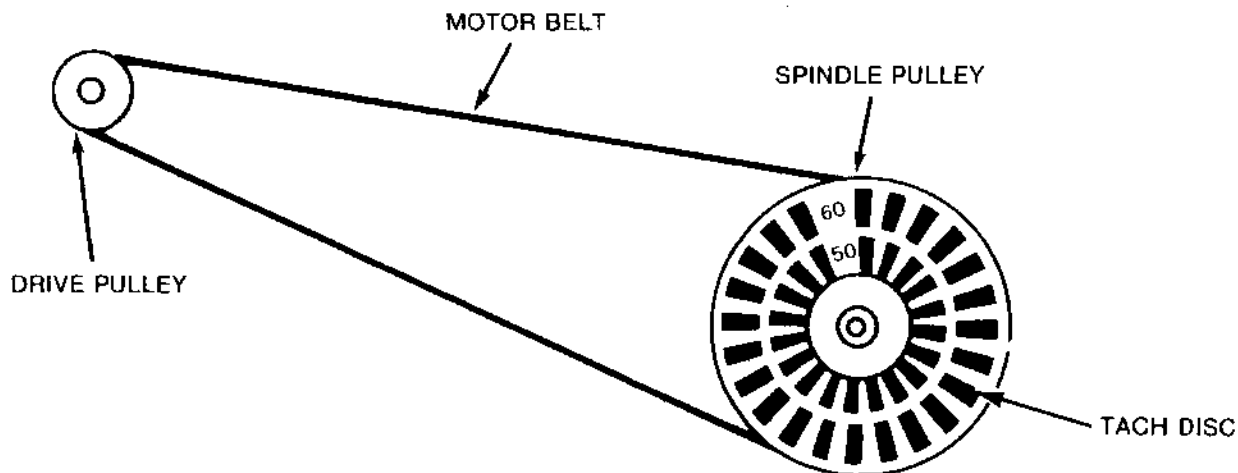

FIGURE 6-8. MOTOR SPEED ADJUSTMENT
- b. Turn pot R-53 located on drive PCB until dark lines on spindle pulley appear motionless. For 60 Hz use outside ring of lines. For 50 Hz, observe inside ring. See figure 6-8.